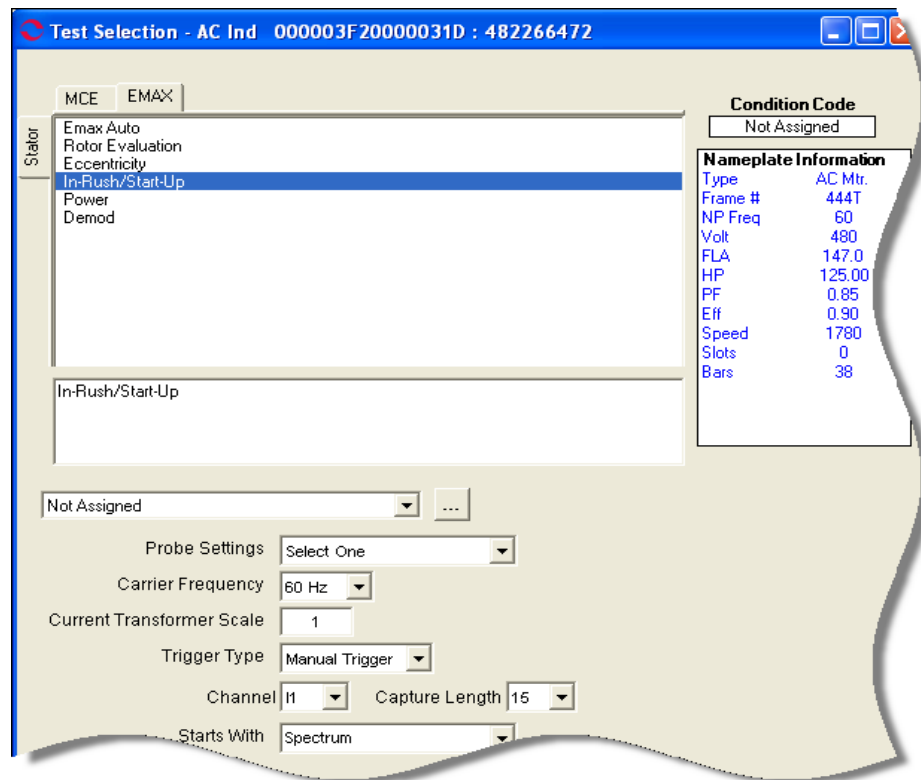

Figure 6-24: In-Rush/Start-Up Test Selection Window
4. Select the Test Selection icon  on the toolbar. The Test Selection window, shown in Figure 6-24 opens.